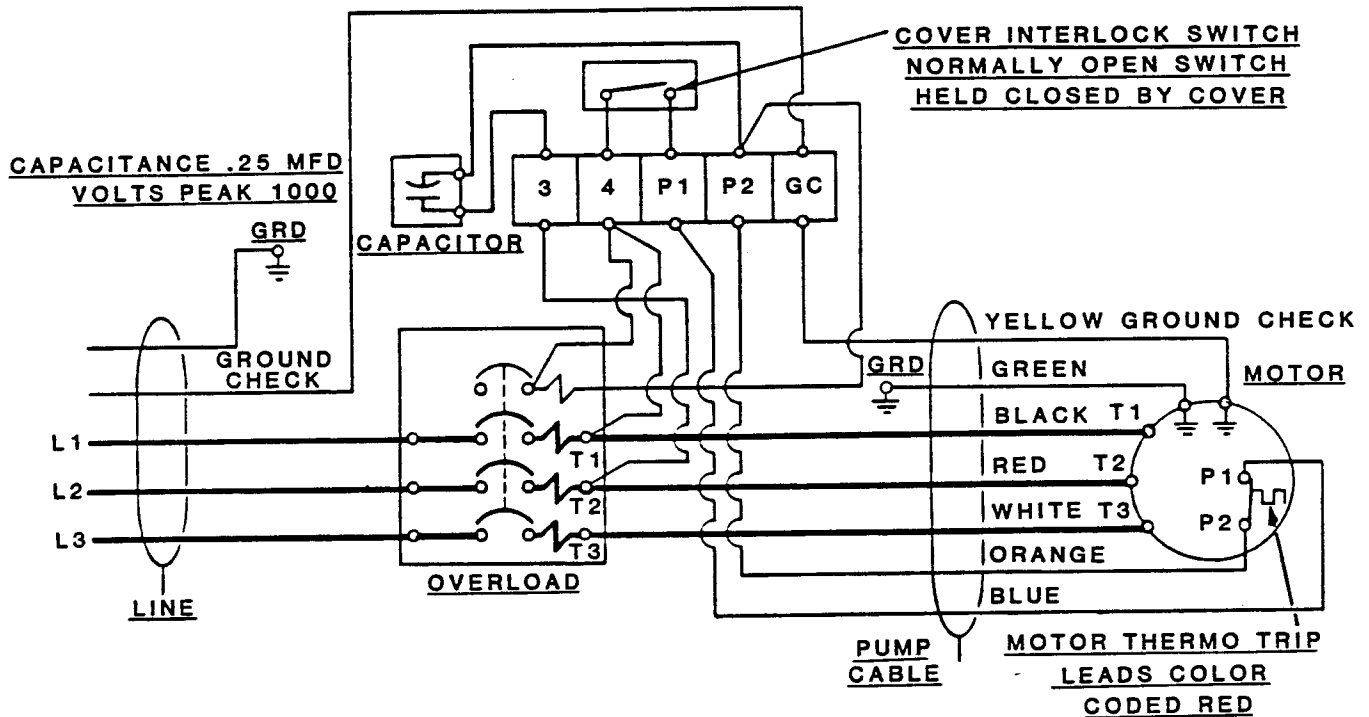

Figure 6. Connection Diagram For 47631-052
- a. Measure the incoming voltage across lines (1 & 2, 2 & 3, and 1 & 3) while the pump is **operating at full capacity**. See Figure 6 on page B-15..
Connect the pump power cable to the control box as shown in Figure 6 on page B-15.. Use the packing gland nuts to secure and seal the power and accessory cables to the control box. Make certain that all connections are tight and that cable entry points are rainproof.